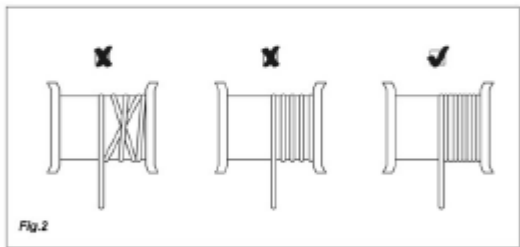

Fig.2
12. Before using this hoist, make sure that the steel cable is correctly wound around the rope drum with the pitch equal to the diameter of the steel cable. (See *Fig. 2*).
13. Make sure that the load is properly secured to the lifting hook (7) or the pulley and the operator shall always keep certain distance with the load and the steel cable (6).